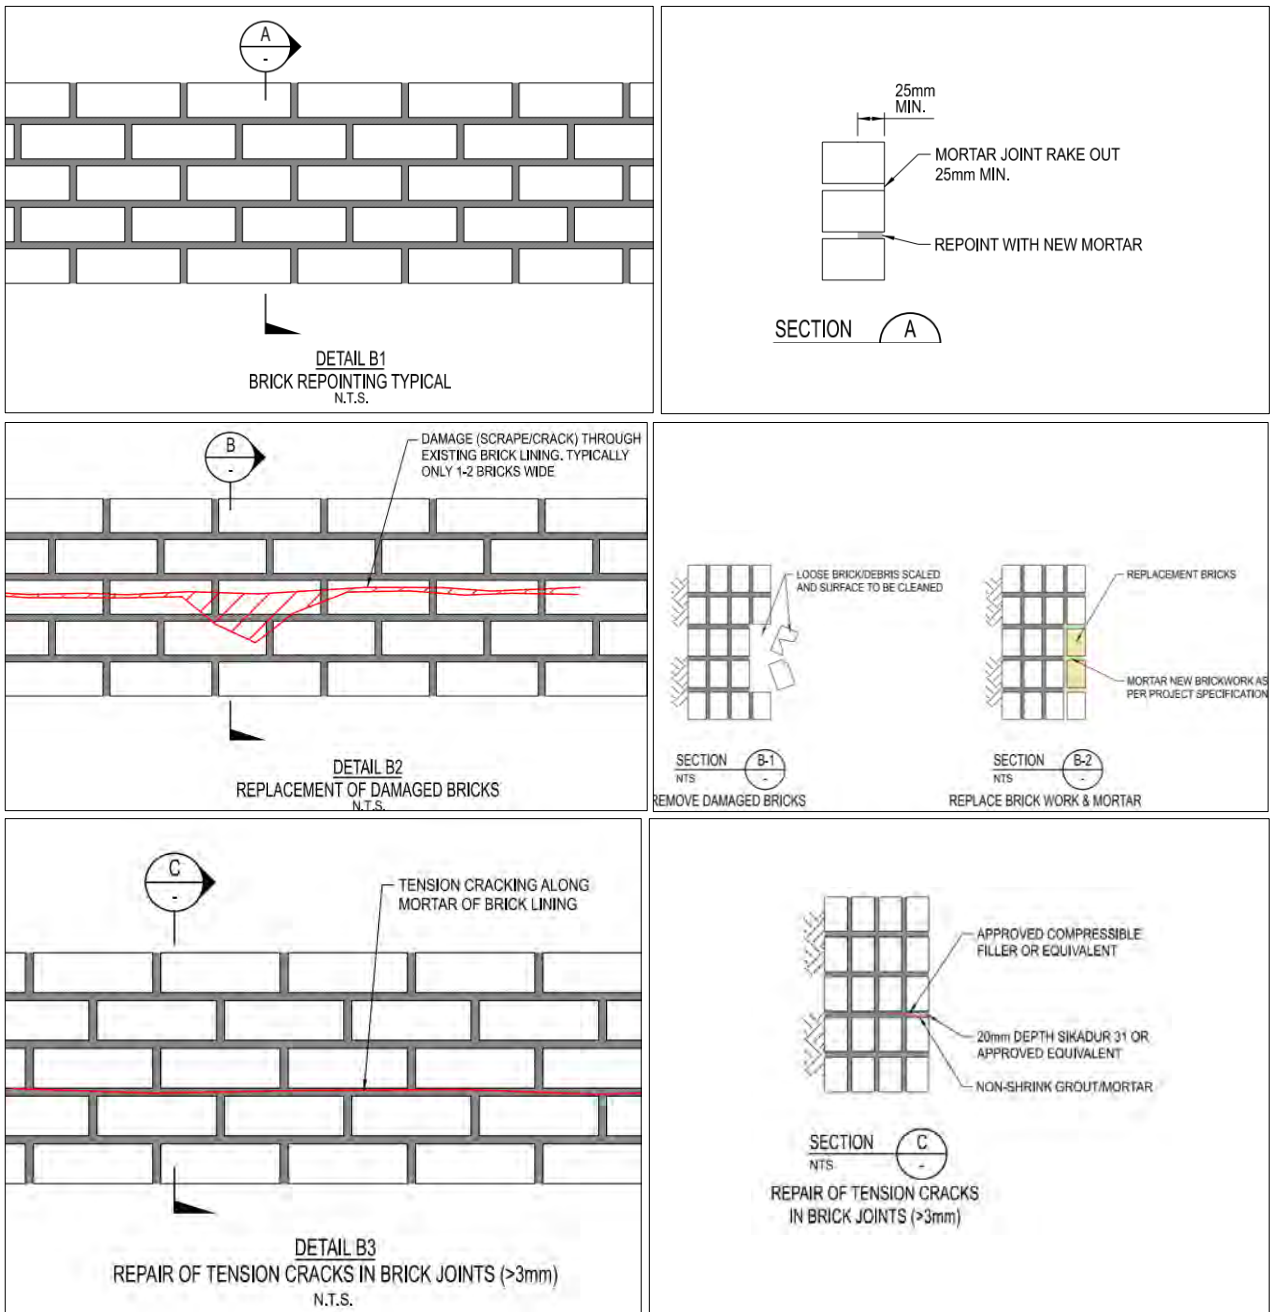

FIGURE 46: DRAWINGS SHOWING EXISTING TUNNEL LINING REPAIR WORKS. (SOURCE: AURECON/VLINE)
- o Damaged masonry sections of portals and internal lining to be repaired (see Figure 46).